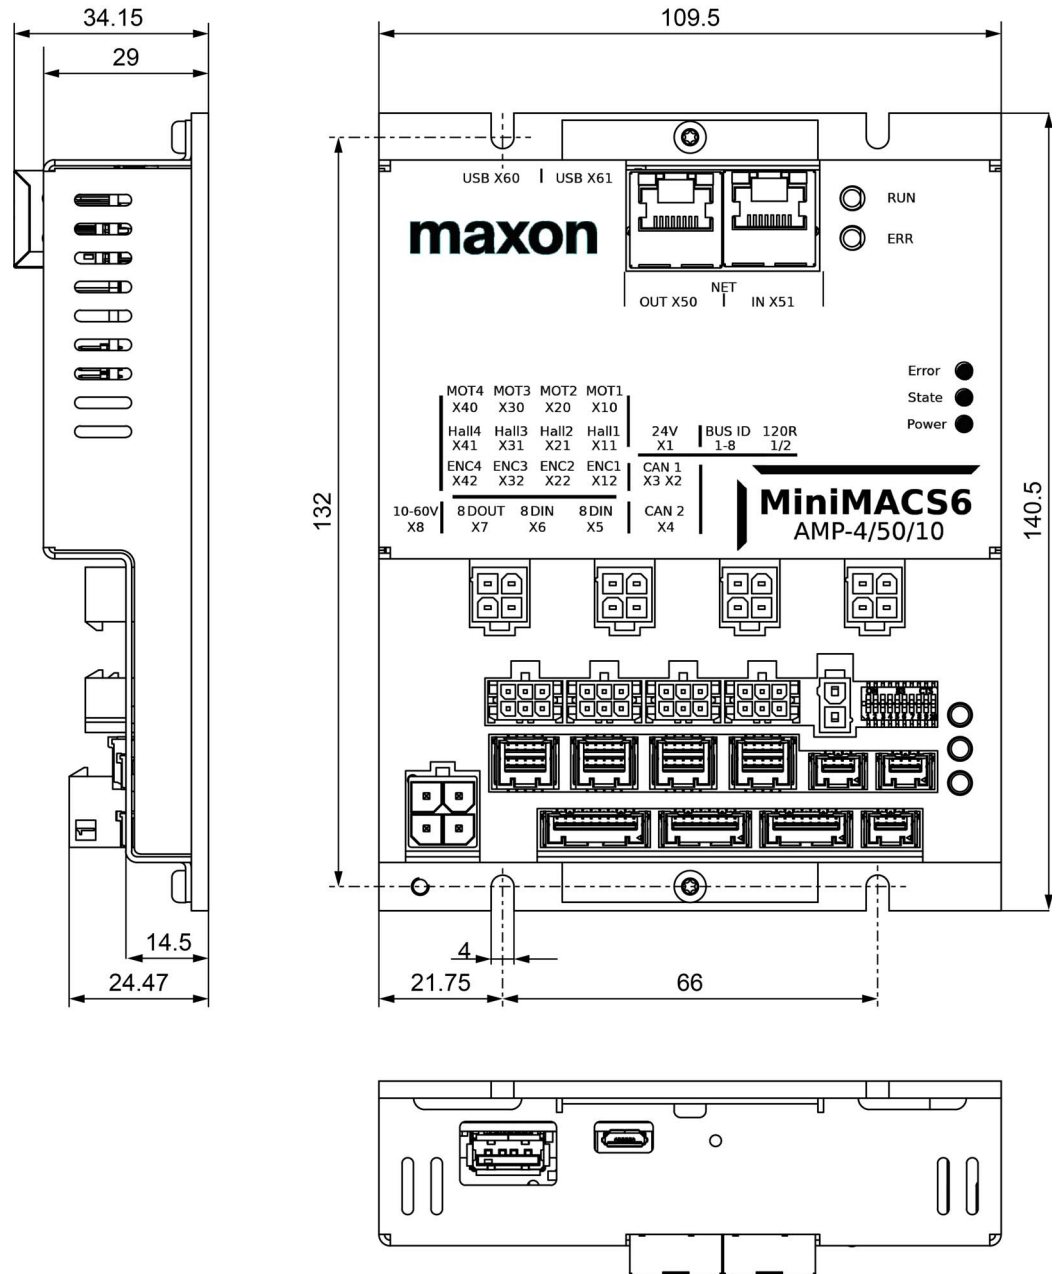

Figure 2-3 MiniMACS6-AMP-4/50/10-IF1 EtherCAT (001757) and MiniMACS6-AMP-4/50/10-IF1 Ethernet (001784) – Dimensional drawing [mm]
- for (001757) and (001784) see →Figure 2-3 on page 2-15.